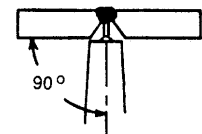

Figure 2.5
3. The electrode should be positioned at a  $90^\circ$  work angle and a  $10^\circ$  to  $15^\circ$  drag angle to perform the weld. (See Figures 2.5 and 2.6.)